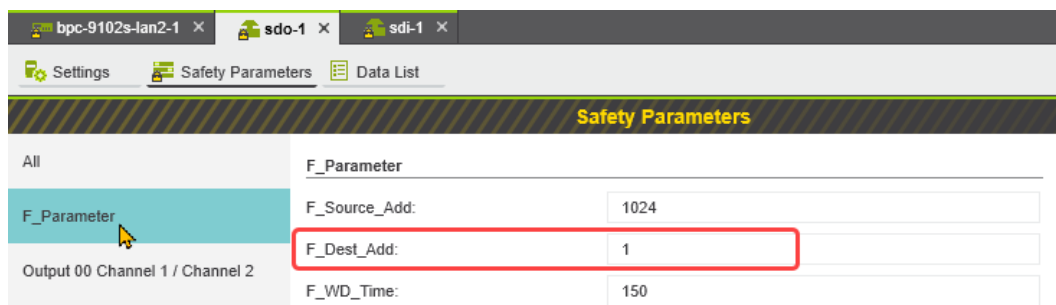

Figure 6-32 F-Address of the PROFIsafe F-Device: F_Dest_Add (F_Destination_Address)
- “1” for the AXL F PSDO8/3 1F (see Figure 6-32)